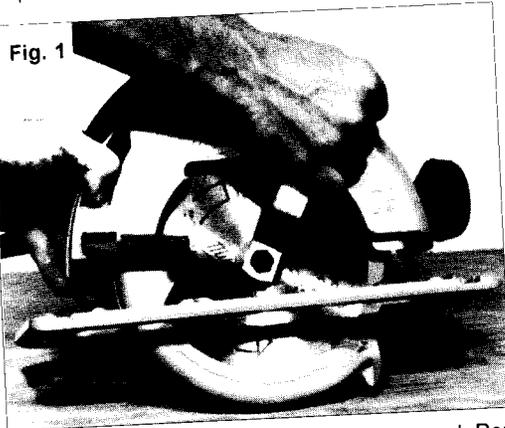

Fig. 1
### Installing and Removing Blades on 7-1/4" & 8-1/4" Saws (Fig. 1 & 2)
2. To remove the bolt from the spindle, push in the spindle lock button. While holding in the spindle lock button, use the wrench provided with the tool to turn the bolt counterclockwise (Fig. 1). Remove the bolt and spindle flange.
### Installing and Removing Blades on 10-1/4" Saws (Fig. 1 & 2)
2. To remove the bolt from the spindle, use the wrench provided with the tool to turn the bolt counterclockwise (Fig. 1). Hold the blade steady by inserting a screwdriver between the teeth of the blade and the bottom of the shoe or by jamming the blade into a piece of wood. Remove the bolt and spindle flange.